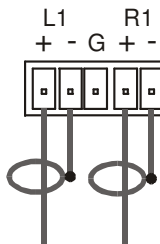

Figure 5: Connecting an Unbalanced Source to the Balanced Input
- An unbalanced source to the balanced input on the **VP-4x4xl** (see Figure 5)
Figure 5 illustrates how to connect an unbalanced source to the balanced input on the **VP-4x4xl** (for example, AUDIO INPUT 1):